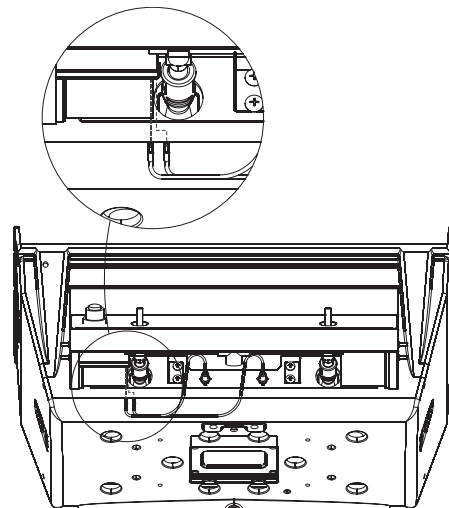

Figure 9
8. Attach ignitor wires to terminals on the ignitor. See Figure 9.